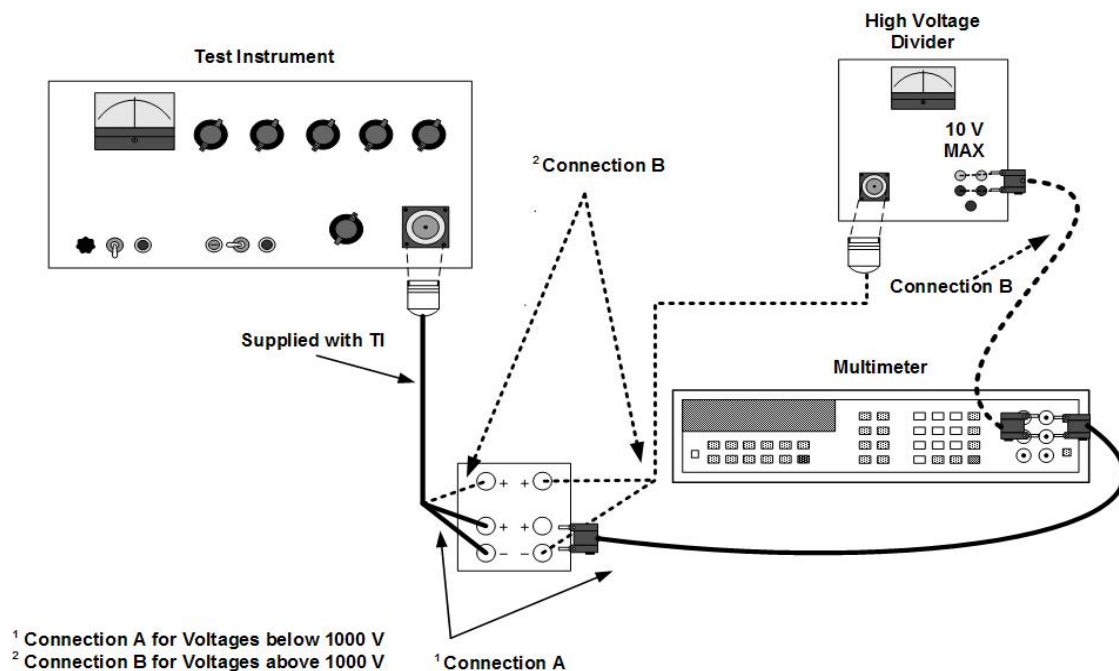

Figure 2. Output voltage - equipment setup.
(1) Connect equipment as shown in figure 2, Connection A.
¹ Connect equipment as shown in figure 2, Connection B.
- (1) Connect equipment as shown in figure 2, Connection B if not already connected.
- (2) Set **OUTPUT VOLTAGE** switches to **99000**.
- (3) Using insulated screwdriver, adjust R104, accessible through hole on upper right-front side of TI until multimeter indicates 9.9 V (R).
- (1) Connect equipment as shown in figure 2, Connection B.
- (2) Adjust **OUTPUT VOLTAGE** switches for indication of **9** on TI meter. If multimeter does not indicate between 8.70 and 9.30 V dc, perform **b** below.
- (3) Set **HIGH VOLTAGE** switch to **STANDBY RESET** and **POLARITY** switch to - (negative).
- (4) Set **HIGH VOLTAGE** switch to **ON** and repeat (2) above.